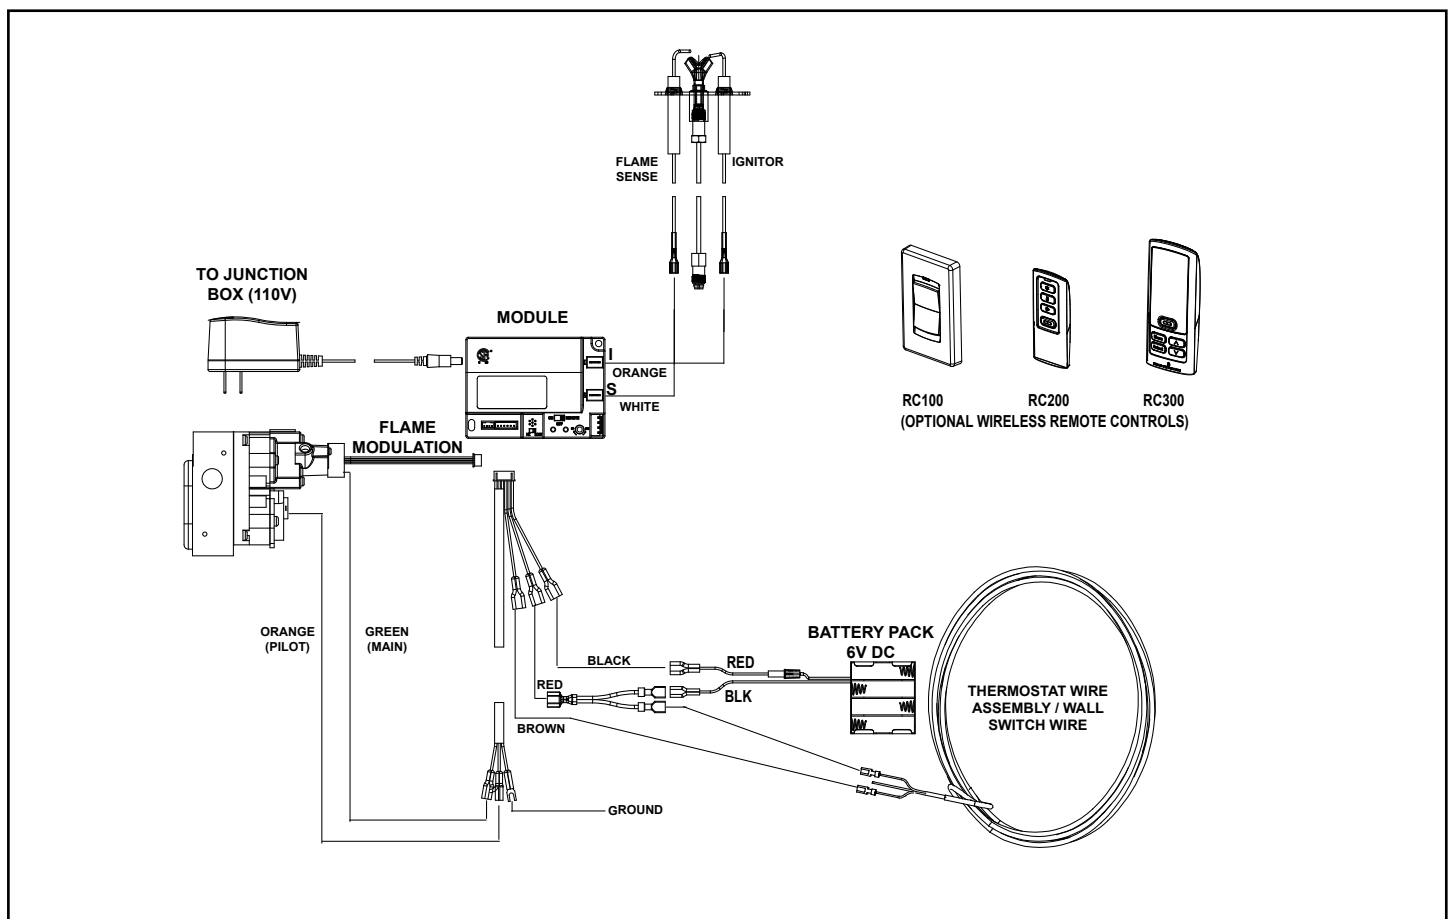

Figure 8.2 IPI Plus Wiring Diagram
- Refer to Figure 8.2, IPI Wiring Diagram.